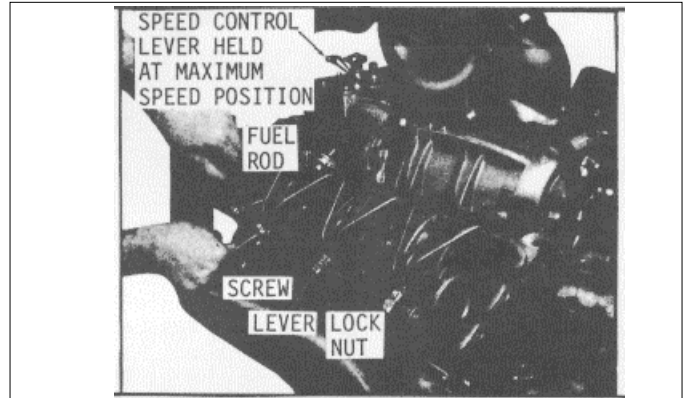

Fig. 5. Position No. 1 Injector Rack Control Lever (One Screw and Locknut Assembly)
- (3) Back out the buffer screw approximately 5/8", if it has not already been done.
- (4) Remove the clevis pin from the fuel rod and the right cylinder bank injector control tube lever.
- (5) Loosen all of the inner and outer injector rack control lever adjusting screw and locknut on both cylinder heads. Be sure all of the injector rack control levers are free on the injector control tubes.
- (6) To be sure of the proper rack adjustment, hold the speed control lever in the maximum speed position and press down on the injector rack with a screwdriver or finger tip and note the "rotating" movement of the injector control rack (Fig. 5). Hold the speed control lever in the maximum speed position and, using a screwdriver, press downward on the injector control rack. The rack should tilt downward (Fig. 2) and when the pressure of the screwdriver is released, the control rack should "spring" back up-ward.